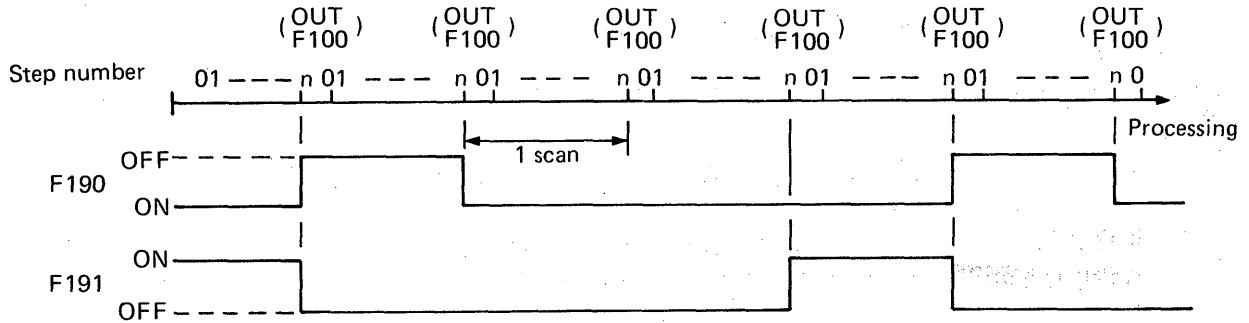

Fig. 4.14 Special Timing Pulses F190, F191
(2) The special timing pulses F190 and F191 turn on during only 1 scan per 4 cycles of operation as shown in Fig. 4.14.